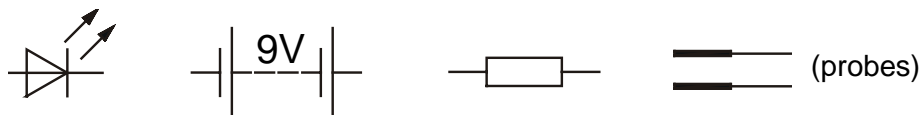

Fig. 4
- (b) (i) Using the components in Fig. 4 draw a circuit diagram for a low cost alternative to the multimeter for carrying out tests on PCB tracks.